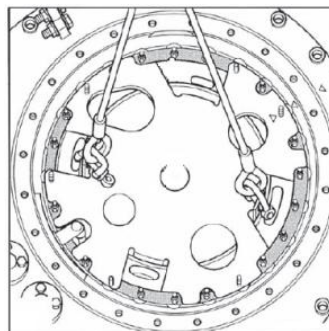

Figure 18
- (4) Carefully pull the diverter switch core vertically from the oil chamber (Figure 18).